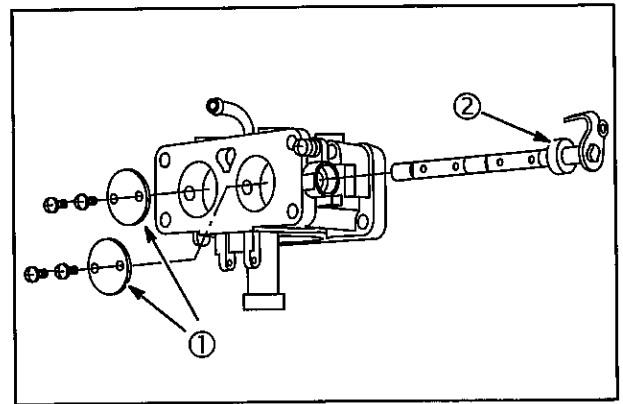

Fig. 123
1. Assemble new seal (2) to throttle shaft and insert into carburetor body, **Fig. 123**.